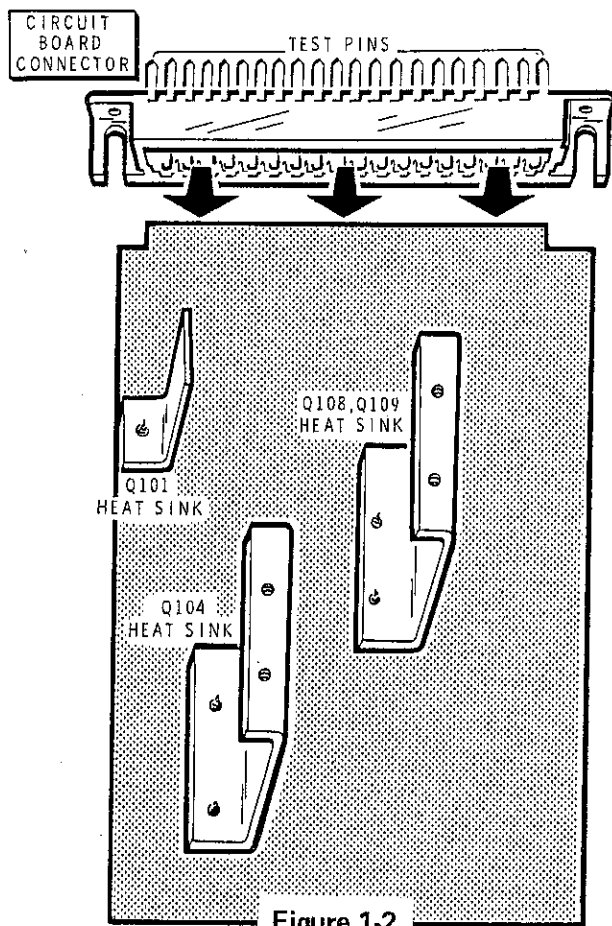

Figure 1-2
- (✓) Refer to Figure 1-2 and install the unused circuit board connector on the power supply circuit board.